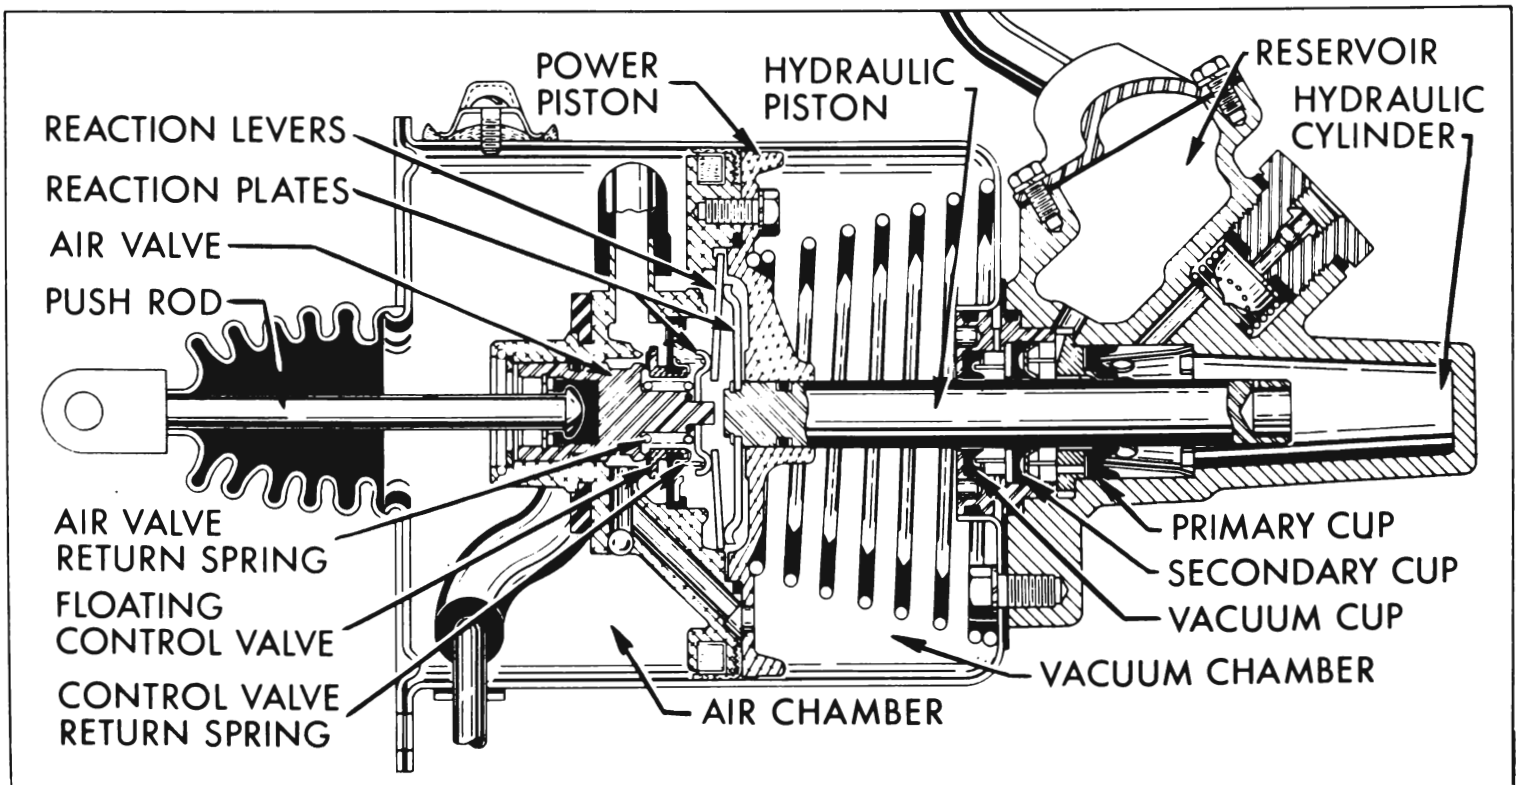

Figure 9-14—Applying
(2) *Applying.* See figure 9-14. As the brake pedal is depressed the push rod moves the air valve until its annular seat contacts the floating control valve, at which point atmospheric pressure is sealed off from the *vacuum* chamber.
power piston and the inner ends press against the small reaction plate which now bears against a shoulder of the air valve. See Figure 9-14.
(6) *Manual Applying.* When the engine is not running and all reserve vacuum is exhausted, the brakes are applied entirely by foot pressure on the brake pedal. As the pedal is depressed, the air valve and the floating control valve move first. The end of the air valve then contacts the end of the hydraulic piston. The hydraulic piston moves into the hydraulic cylinder, causing the brakes to be applied in the usual way. However, the pedal pressure for a given brake application is considerably greater. See figure 9-14.